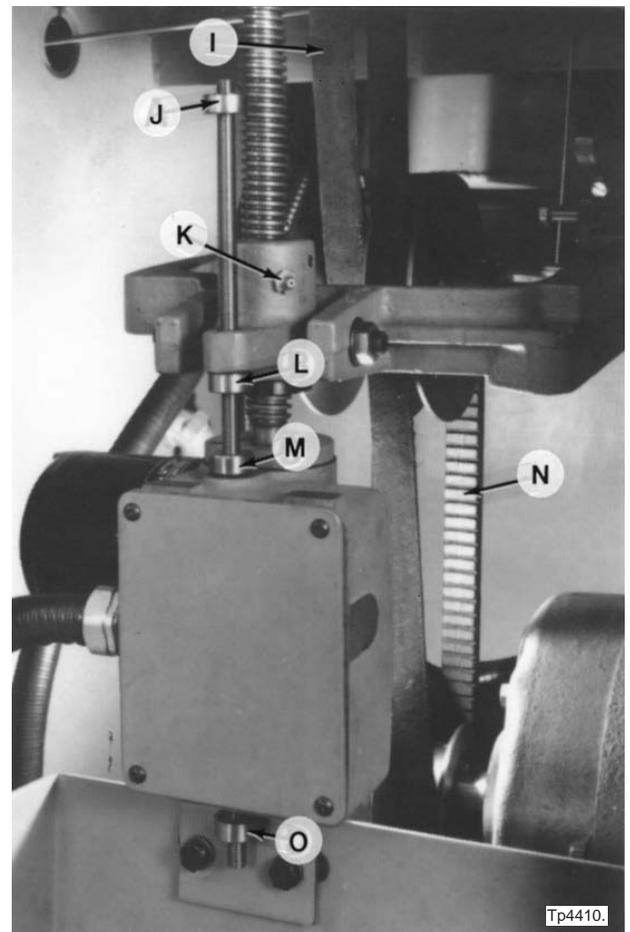

Figure 3.4 - Spindle Drive Compartment
9. Check drive belts “I” and “N”, Figure 3.4, for proper tension.